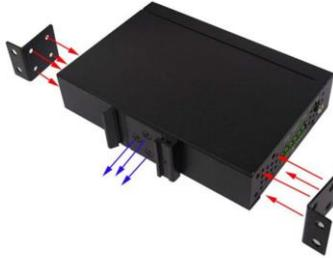

Figure 3.3
4. Align the wall mounting plates on the rear side. The screw holes on the device and the mounting plates must be aligned, see the following illustration *Figure 3.3*.